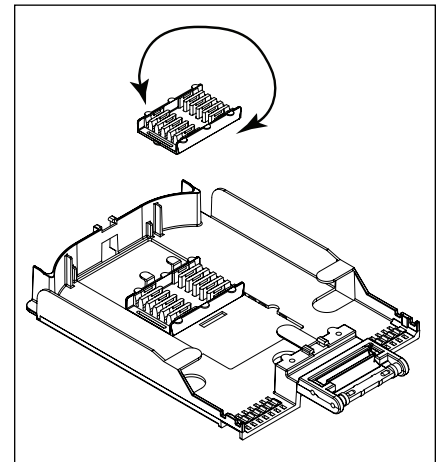

Figure 5
5. Rotate filled module 1 one complete turn (Figure 5, see arrows) and snap into ribbon tray. This will create a twist on each ribbon and allow them to lie more neatly in the tray.